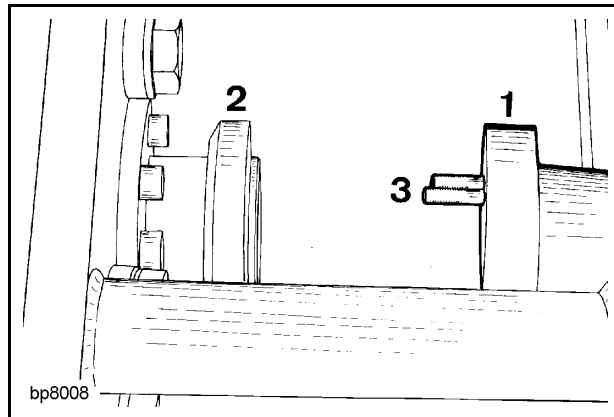
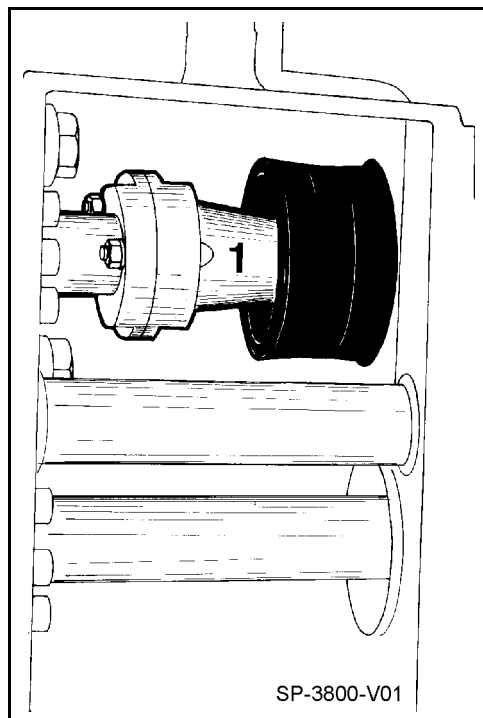

Fig. 197
Fig. 198
- Remove the lock nuts and check the alignment of the assembly aids (3) with the through holes in the piston rod flange (2) (**Fig. 197**).
- Drive piston rod flange carefully to the flange of the pumping piston (1) and place into position. The through holes must slide over the assembly aids in the process.
- Retract the piston rod slowly and pull the pumping piston (1) (**Fig. 198**) out of the cylinder.